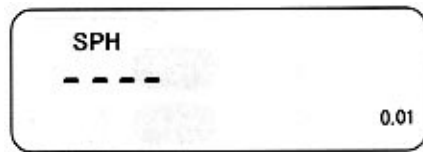

Fig. 6
- (1) Place the device on a working table with proper height to the extent that the adjusted inclined angle of the device will result in comfortable measurement for the operator.
- (2) Put power supply wire into socket, and the device comes into mode of being ready to operate (Fig.6). Turn diopter measuring hand-wheel. When digitals appear on the display screen, it indicates the device is put in mode of spherical lens measurement.